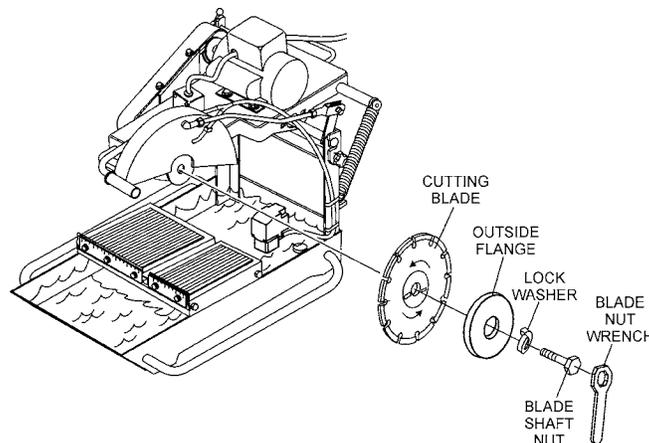

Figure 9. Blade Installation
1. Use the **blade nut wrench** (Figure 9) supplied with the saw to install the cutting blade.